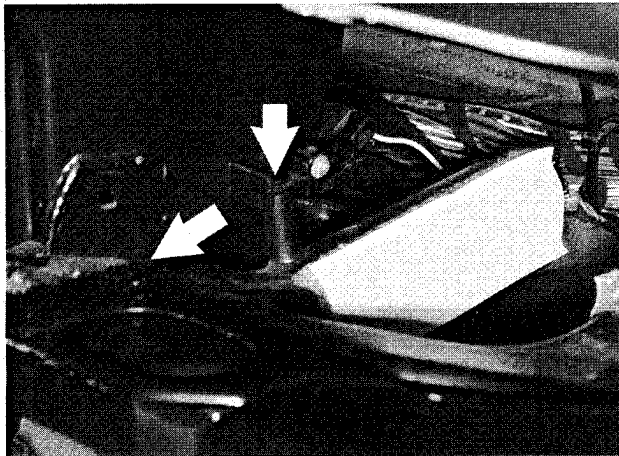

Fig. 51. Unfasten retaining rivets from right ventilation duct (arrows).
- 2. Remove right footwell ventilation duct. See Fig. 51.